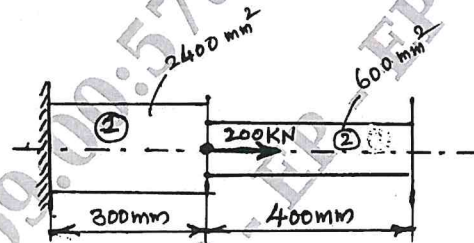

Fig.Q.4
- 4 For the stepped bar shown in Fig.Q.4. Determine the nodal displacement and stressed at each node. (20 Marks)